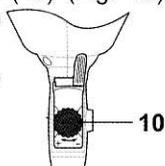

Fig. 12
Limit the maximum speed using the speed dial (10) (Fig. 12).
- > Turn the speed dial (10) in plus direction "+" to increase the maximum speed.
- > Turn the speed dial (10) in minus direction "-" to decrease the maximum speed.